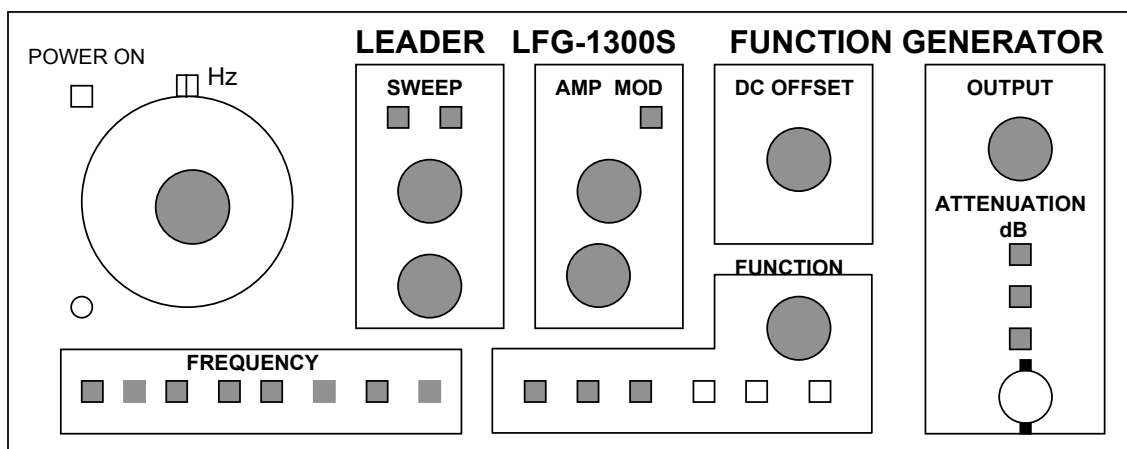

Figure 1. Front Panel of Function Generator
The function generator is used to generate a wide range of alternating-current (AC) signals. A diagram of the Leader LFG-1300S Function Generator is shown below in Figure 1.